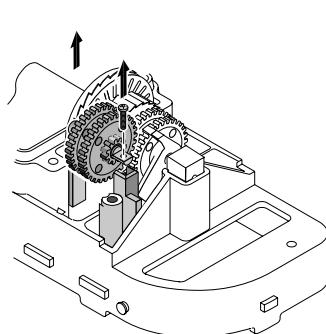

Figure 21
6. Remove the set screw, short gear shaft, and gears (Figure 21); be sure to keep the gears on.